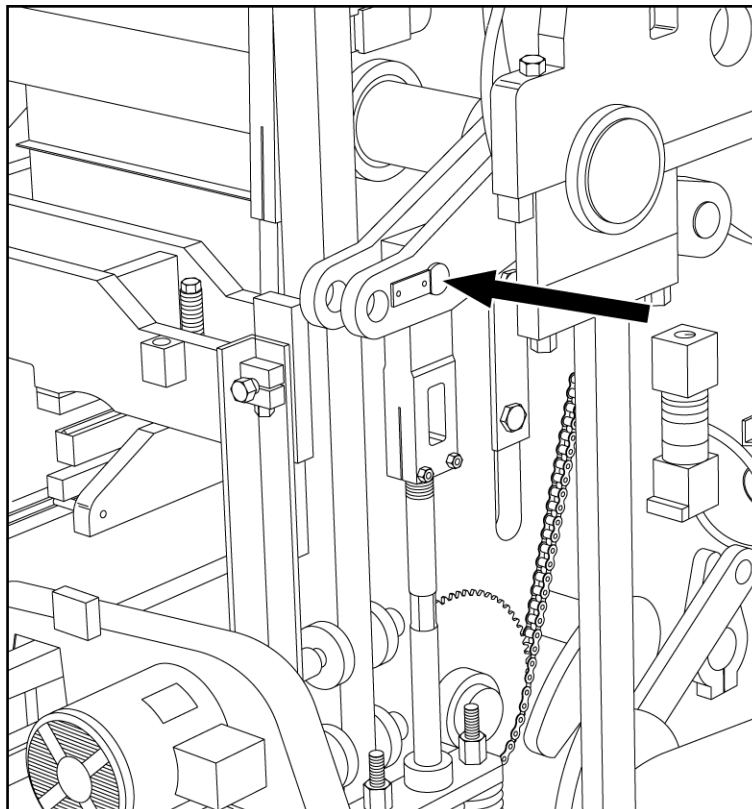

Figure 4.1 PALLET RECEIVER SHAFT POSITION
4.1.1 The following items should be positioned as shown in figures 4.1 and 4.2:
- a. Pallet receiver shaft - position pins in inside holes (short stroke)(see figure 4.1 below).